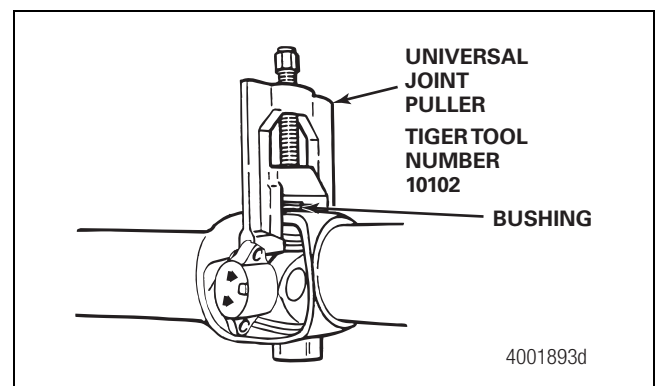

Figure 4.10
1. Position a universal joint puller (Tiger Tool number 10102). Refer to the Service Notes page on the front inside cover of this manual for information to obtain this tool. Figure 4.10.